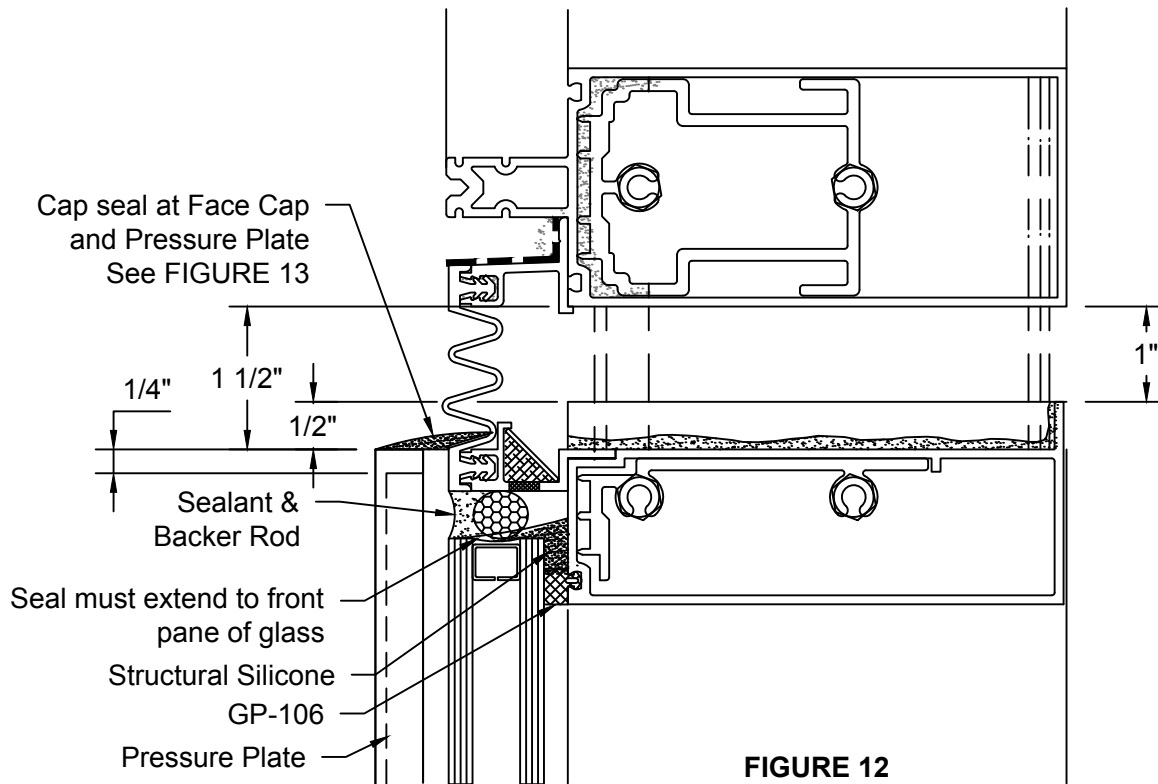

FIGURE 12
- 1.16 Structural Silicone seal is required at top of glass of lower units. This seal must extend forward to cover top of glass. Insert backer rod and seal face of glass to lower side of WW-258 gasket retainer. See **FIGURE 12**. Do not obstruct weep hole in WW-258 gasket retainer.